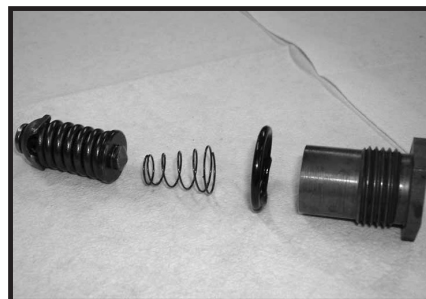

Figure 53
18. If relief valve components items #21, #22, #24 were removed from the end cover (2) assemble a **new** o-ring (22) on the two plugs (21). Assemble a two piece relief valve (24) in each of the plugs, with the large end of the conical spring into the plug first and the small nut of the other valve piece in the small end of the conical spring. Turn each of the plug and relief valve assemblies into the end cover loosely to be torqued later. 3/8 inch Allen or 1 inch Hex socket required. SEE FIGURE 53.